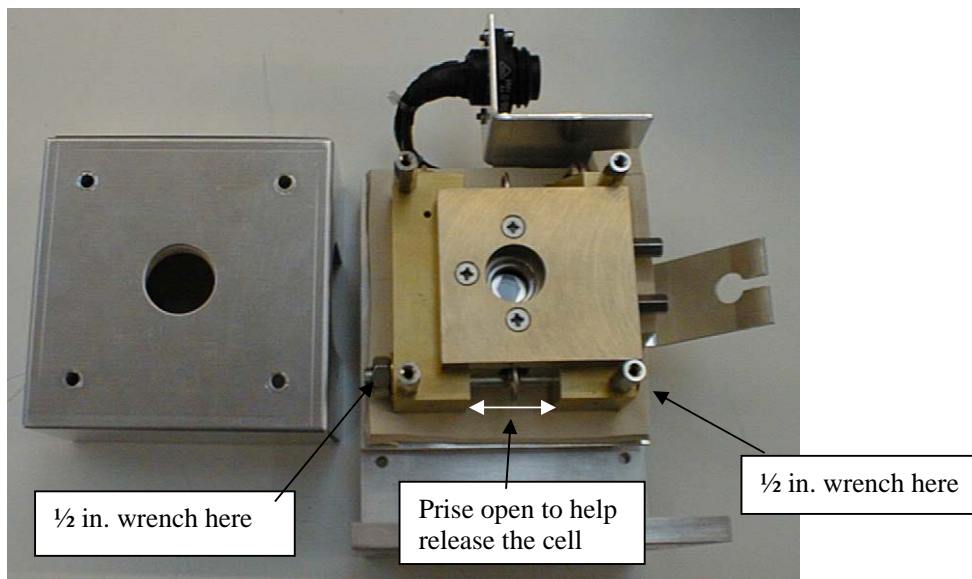

Figure 5.1
4. Remove the front cover by removing the four screws at each corner (Figure 5.1).